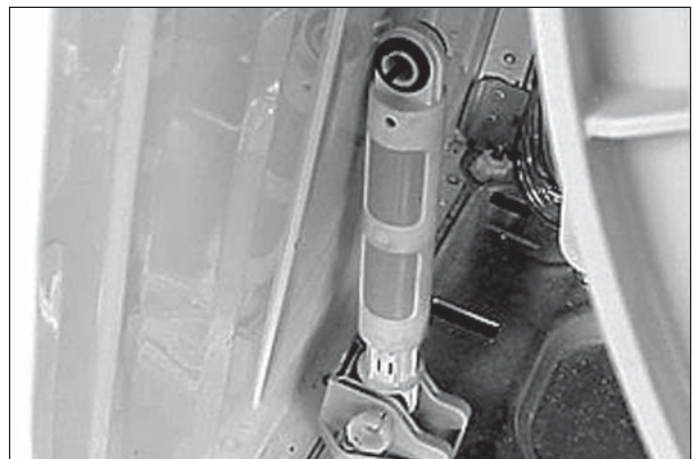

Figure 4-101.
9. Remove the top pins from shock absorbers and push the shock absorbers against the cabinet. (See Figure 4-101)